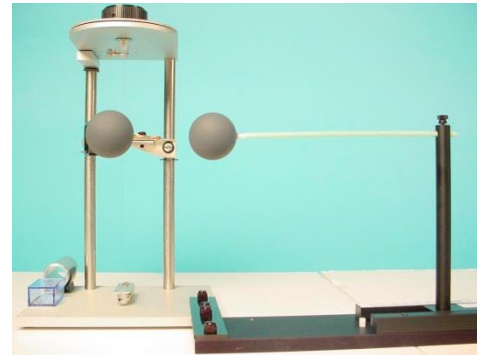

Figure 4: Slide Assembly Setup
9. *Connect the slide assembly* to the torsion balance as shown in Figure 4, using the coupling plate and thumbscrews to secure it in position.